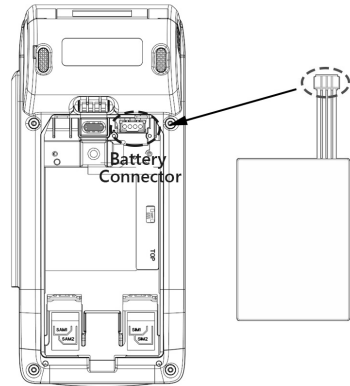

Figure 9
STEP 2: After removing the battery cover, pull up the battery connector as below Figure 9 to change a new battery.